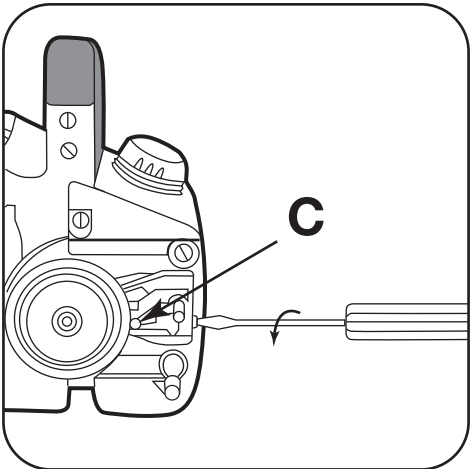

Figure 2
2. Turn chain tension adjustment screw COUNTERCLOCKWISE until chain tension adjustment tang (C) is as far rear as possible (Figure 2).